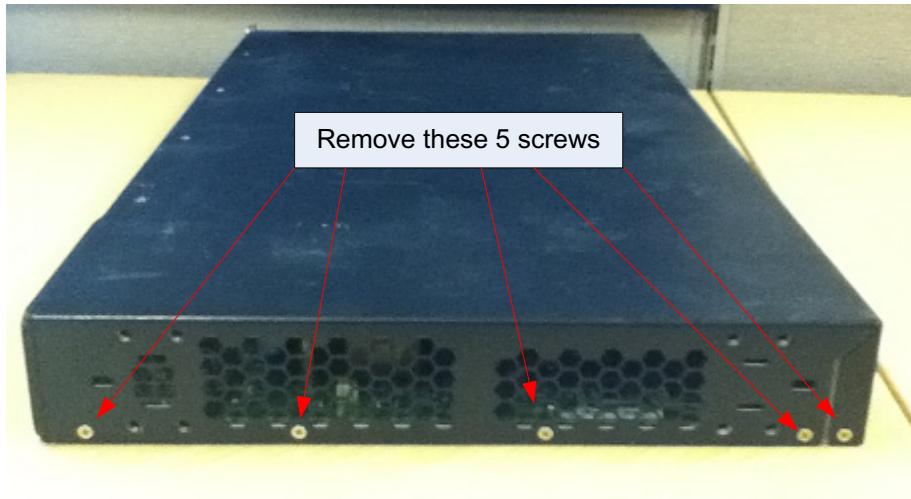

Figure 3-2: EX2200 Left side screws
2. Remove five screws from left side of chassis (Figure 3-2)